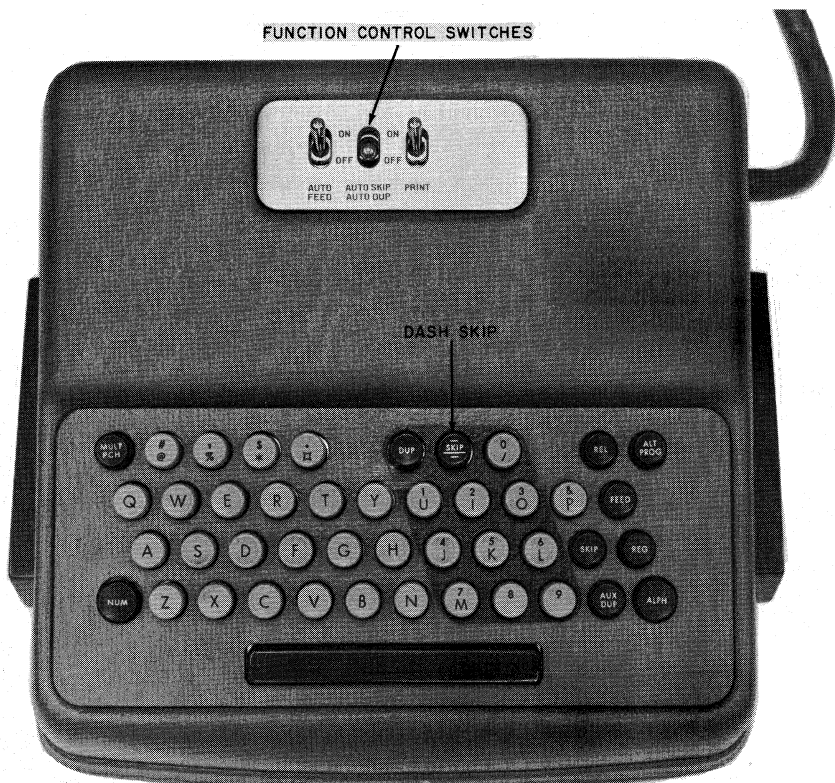

Figure 5
9. The "Function Control Switches" on the card punch keyboard cannot be controlled by the Flexowriter and they are (Figure 5):